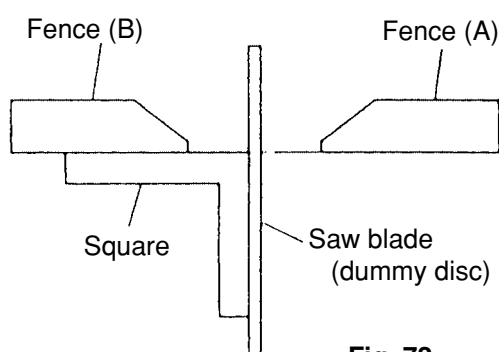

Fig. 72
Squareness between fences (B) and slide pipes [Place a square against fence (B) (see Fig. 72), slide the saw blade section (head), and check for any clearance between the saw blade (or dummy disc) and the square.]	0.15/180 mm (0.006"/7-3/32")